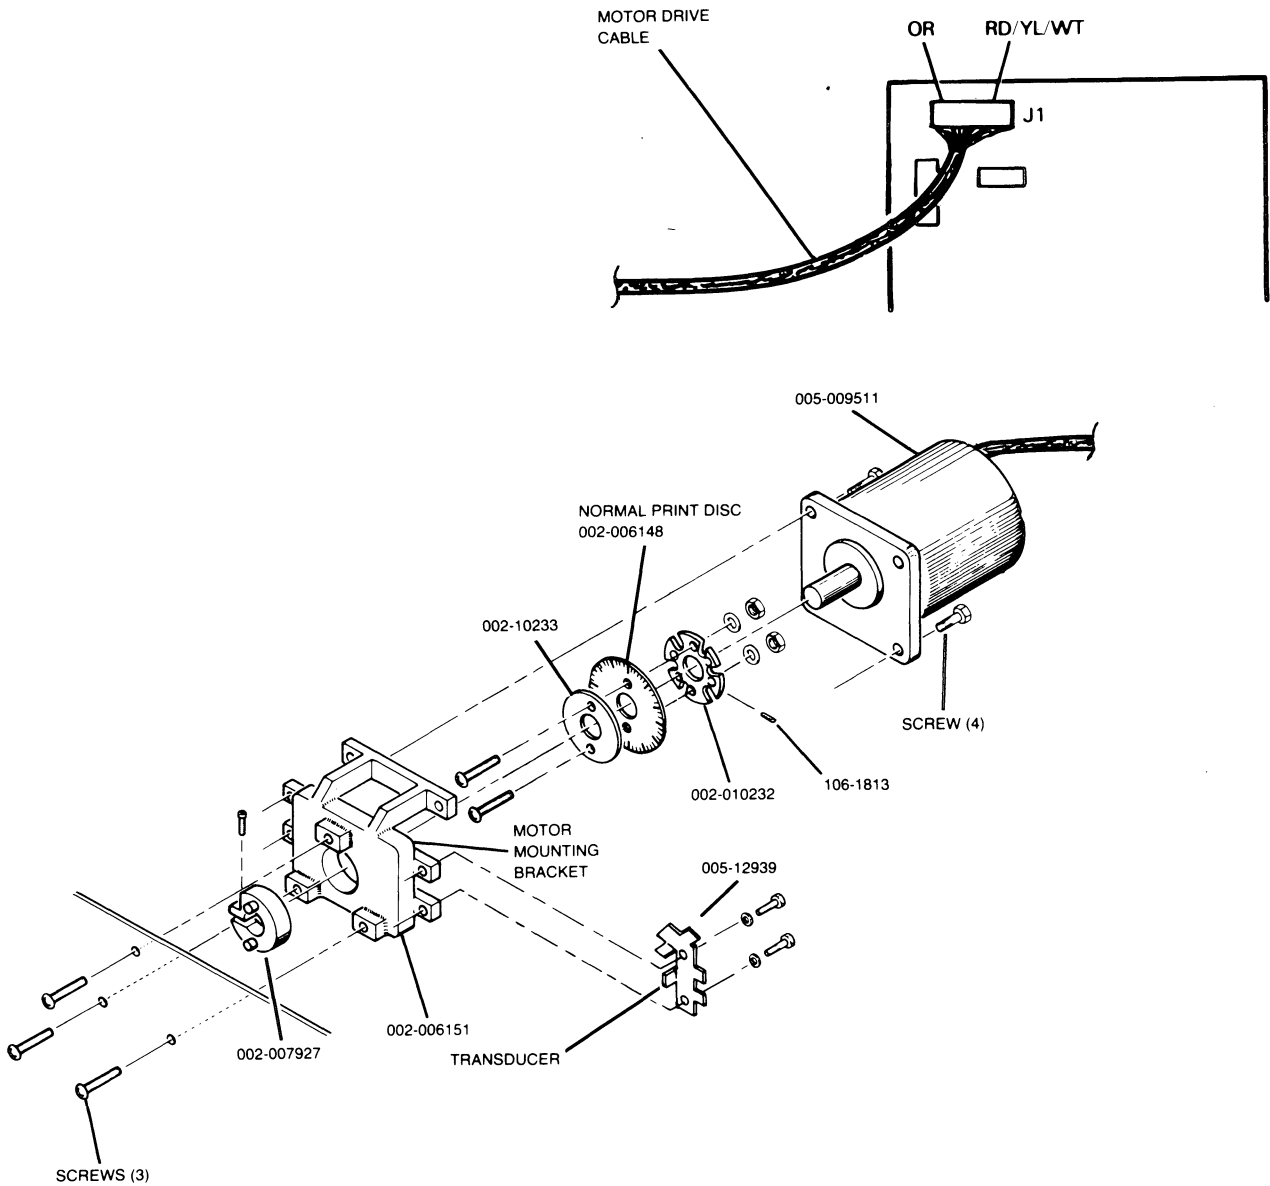

Figure 5.12 Carriage Motor and Sector Disk Removal/Replacement
4. Remove two screws and washers securing horizontal transducer assembly to motor mounting bracket (see Figure 5.12).